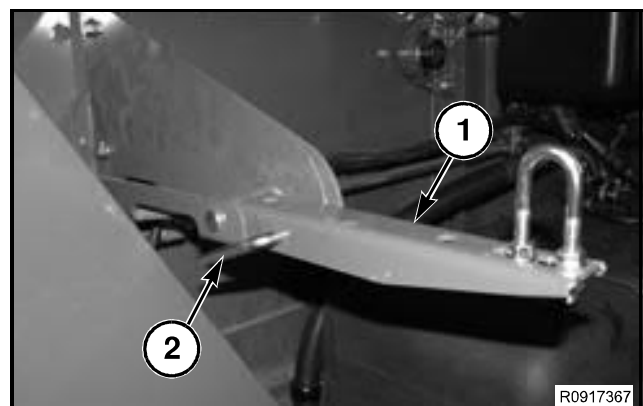

FIG. 38
FIG. 38: The latch striker bracket (1) for the left-hand side door can be collapsed to provide accessibility when servicing the combine. To collapse the striker bracket pull on the release (2) and pull up on the striker bracket. Fold the striker bracket towards the combine.